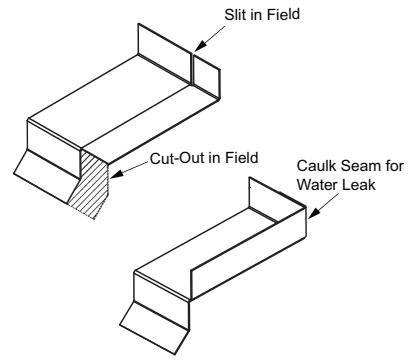

Fig. 1.3 Closed End Sill Flashing
- b. Closed end flashing pieces (if supplied by All-Lite) will include extra length on each end which must be cut, and manually bent into place to close off the sill flashing ends. Carefully bend up the end tabs and thoroughly caulk the corner seams. See figure 1.3.